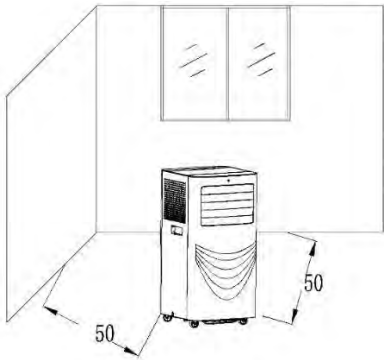

Fig.5
1) Move the machine with installed heat pipe and fittings before the window, and the distance between the body and walls or other objects shall be least 50 cm (as shown in Fig.5).